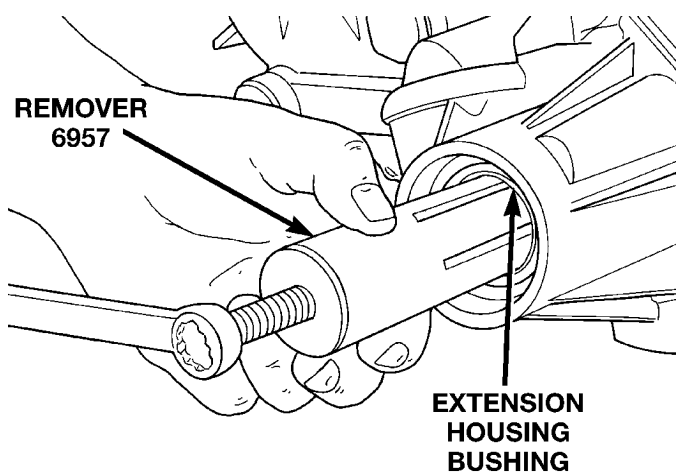

Fig. 37 Bushing Removal—Typical
- (1) Remove overdrive housing yoke seal.
- (2) Insert Remover 6957 into overdrive housing. Tighten tool to bushing and remove bushing (Fig. 37).